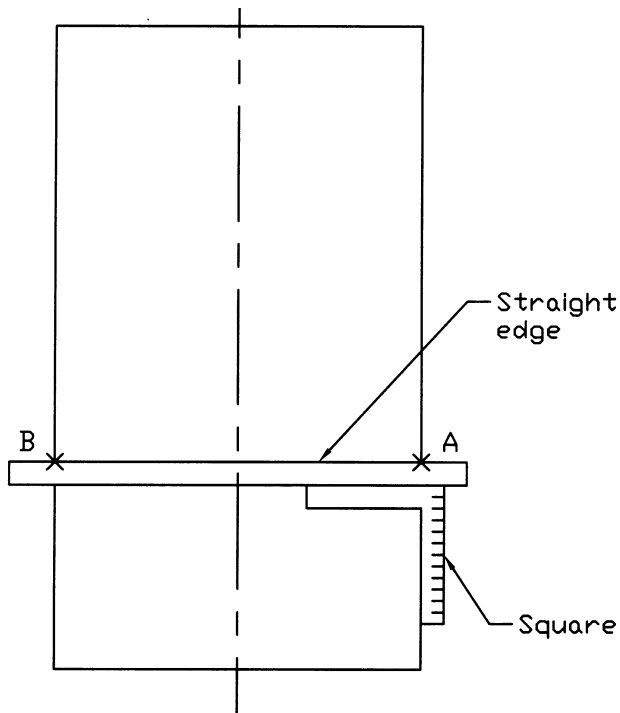

Fig. 2A
1. With a carpenter's square and a straight edge, draw a line from one edge of the belt to the other edge (Fig. 2A).